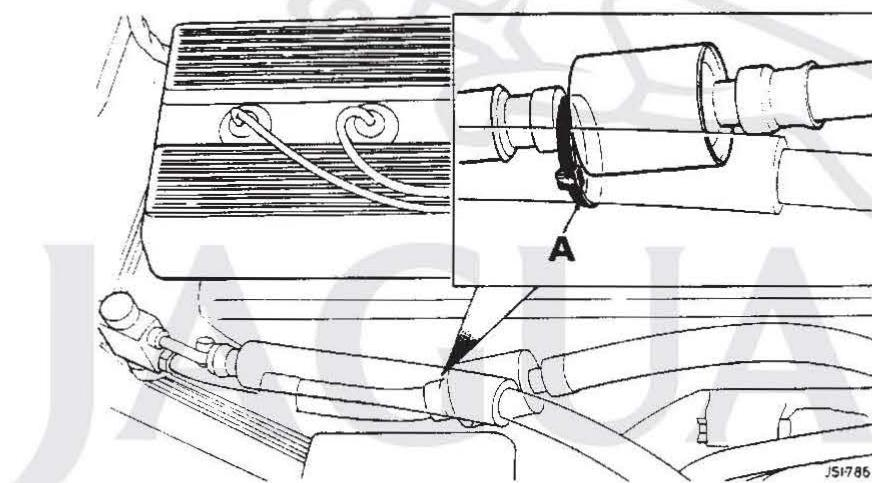

FIG 1
5. Secure new hose/muffler assembly to the high pressure refrigerant hose as shown (Fig 1 'A') using ratchet strap Part No. C46294 supplied in Kit JLM 1531.